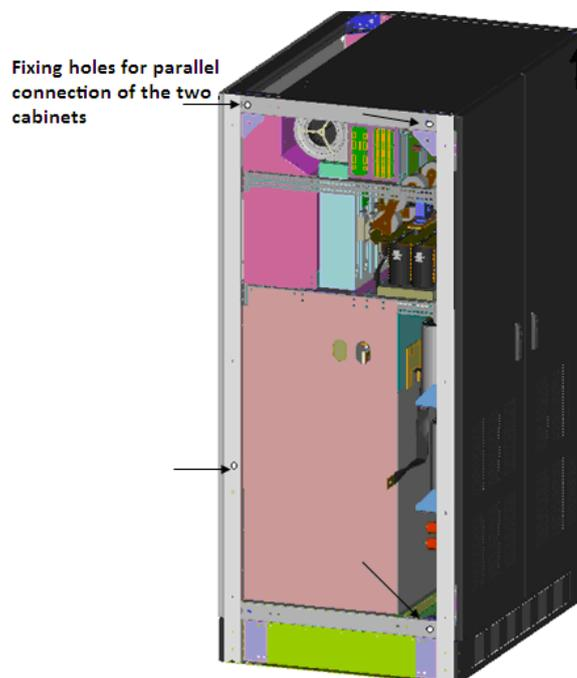

Fig. 3-17: Diagram of fixed holes on the rectifier cabinet and the inverter cabinet of This series (400-500kVA) UPS
2. Fix the installation. Remove the back board of the machines placed in parallel, fix the two cabinets using screws at the “fixed holes on two cabinets connected in parallel” (as shown in Fig. 3-17), and then install the back board of the machines.